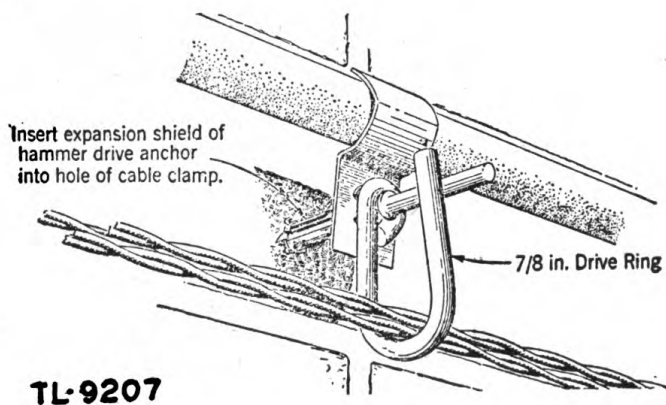

Figure 12. Drive ring partially installed on cable run.
c. DRIVE RINGS. (1) A drive ring consists of a pin and an open wire loop. (See fig. 12.) Three sizes of loops are available, 1/2-inch, 5/8-inch, and 7/8-inch. Drive rings can be driven into wood or into masonry by using the expansion shield of the 1/4 x 1 inch hammer drive anchor.
(2) The 7/8-inch drive ring can be used to support wires paralleling cable runs which are attached to wood or masonry. The pin of the drive ring serves as the anchor expansion element of the cable clamp anchor. (See fig. 12.)